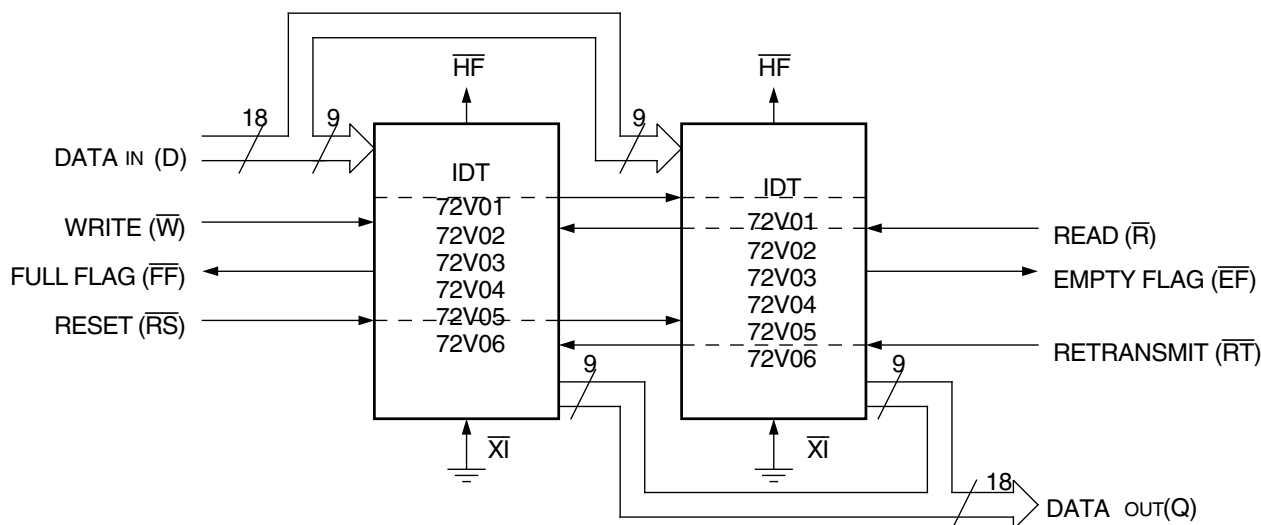

Figure 13. Block Diagram of 512 x 18, 1,024 x 18, 2,048 x 18, 4,096 x 18, 8,192 x 18 and 16,384 x 18 FIFO Memory Used in Width Expansion Mode
Word width may be increased simply by connecting the corresponding input control signals of multiple devices. Status flags ( $\overline{EF}$ ,  $\overline{FF}$  and  $\overline{HF}$ ) can be detected from any one device. Figure 13 demonstrates an 18-bit word width by using two IDT72V01/72V02/72V03/72V04/72V05/72V06s. Any word width can be attained by adding additional IDT72V01/72V02/72V03/72V04/72V05/72V06s (Figure 13).
- For Flag detection see section on Width Expansion and Figure 13.